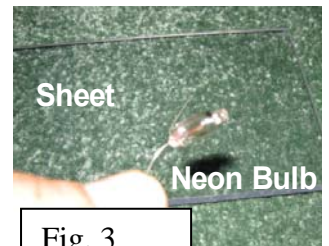

Fig. 3
- Bring one lead of the neon bulb closer to VDG globe (Figure 3). The bulb blinks if is not touching the globe but is within 1-2 mm. The gas atoms split into positive and negative particles (plasmas), which produce light.